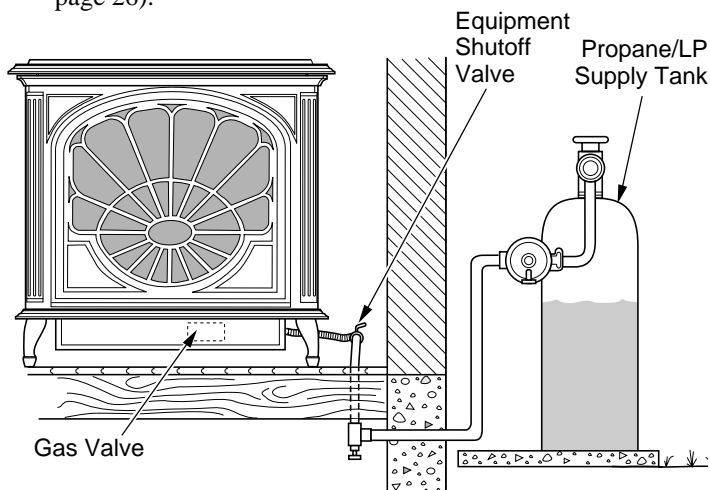
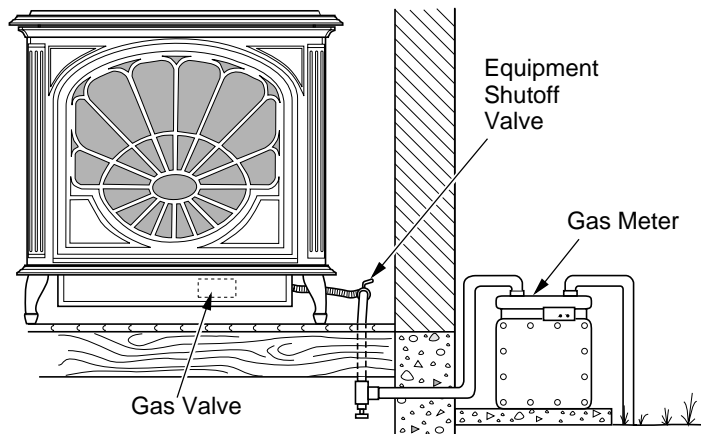

Figure 44 - Checking Gas Joints for Propane/LP Gas Burner System
Figure 45 - Checking Gas Joints for Natural Gas Burner System
3. Check all joints from propane/LP supply tank or gas meter to equipment shutoff valve (see Figure 44 for propane/LP or Figure 45 for natural). Apply noncorrosive leak test solution to all gas joints. Bubbles forming show a leak. Correct all leaks at once.
4. Check all joints from equipment shutoff valve to thermostat gas valve (see Figure 44 for propane/LP or Figure 45 for natural). Apply noncorrosive leak detection solution to all gas joints. Bubbles forming show a leak. Correct all leaks at once.